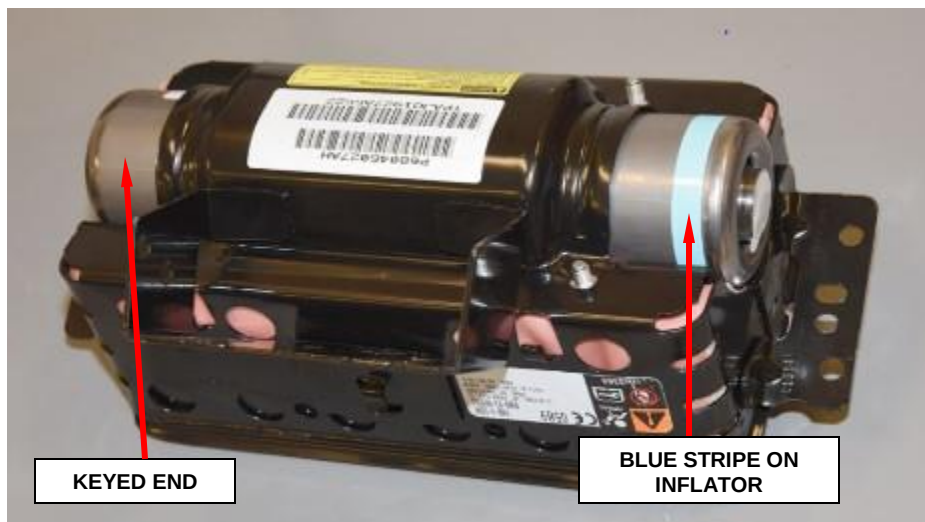

Figure 106 – Insert Inflator (Shown with Cushion Installed)
- k. Slide **new** inflator into housing. The keyed end is inserted first, therefore the blue stripe on the inflator will be located at the open end, as shown (Figure 106).